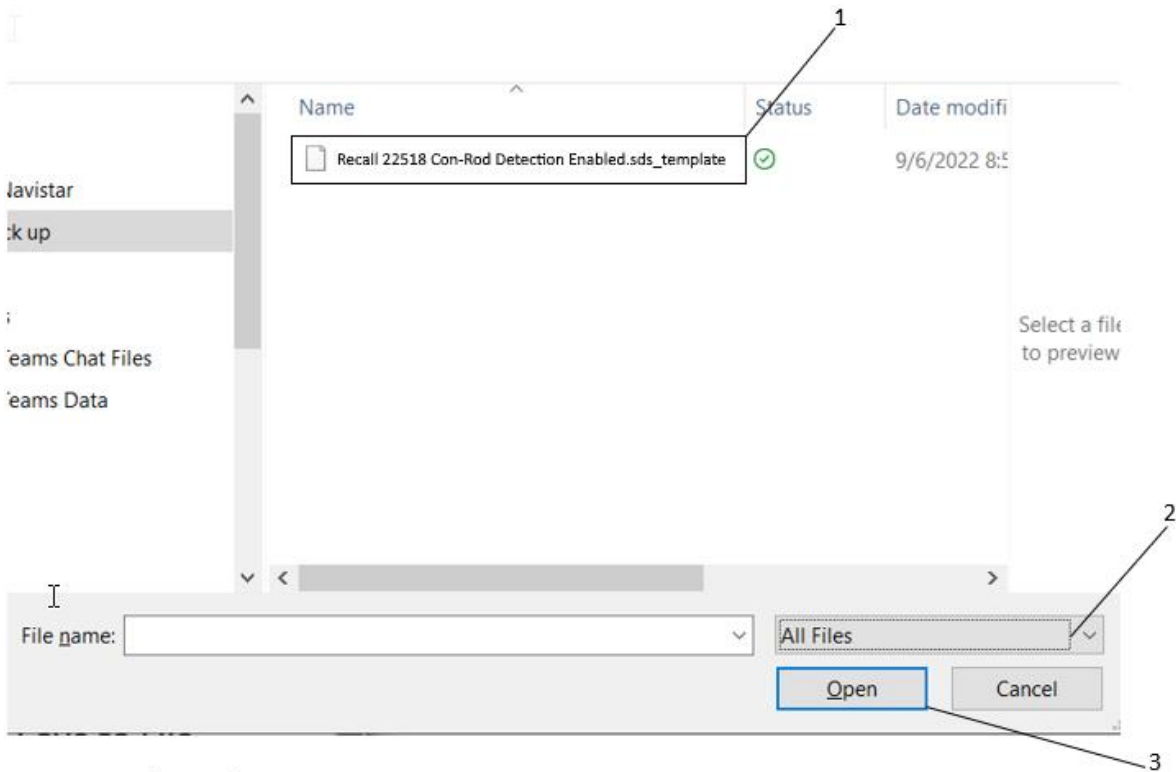

Figure 3. Load Template Screen
12. Ensure ALL files is selected (Figure 3, Item 2).
13. Select Recall 22518 Con-Rod Detection Enabled.sds.template (Figure 3, Item 1).
14. Click Open (Figure 3, item 3).